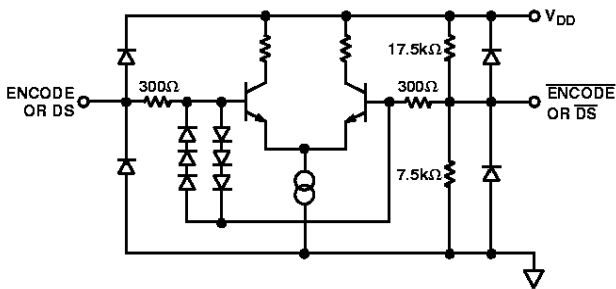

Figure 5. Equivalent ENCODE and Data Select Input Circuit
³t_v and t_{PD} are measured from the threshold crossing of the ENCODE input to valid TTL levels of the digital outputs. The output ac load during test is 5 pF (Refer to equivalent circuits Figures 5 and 6).
ENCODE and Data Select (DS) can be driven differentially or single-ended. For single-ended operation, the complement inputs ($\overline{\text{ENCODE}}$, $\overline{\text{DS}}$) are internally biased to $V_{\text{DD}}/3$ (~1.5 V) by a high impedance on-chip resistor divider (Figure 5), but they may be externally driven to establish an alternate threshold if desired. A 0.1 μF decoupling capacitor to ground is sufficient to maintain a threshold appropriate for TTL or CMOS logic.
Note the 6-diode clock input protection circuitry in Figure 5. This limits the differential input voltage to $\sim \pm 2.1$ V. When the diodes turn on, current is limited by the 300Ω series resistor. Exceeding 2.1 V across the differential inputs will have no impact on the performance of the converter, but be aware of the clock signal distortion that may be produced by the nonlinear impedance at the converter.